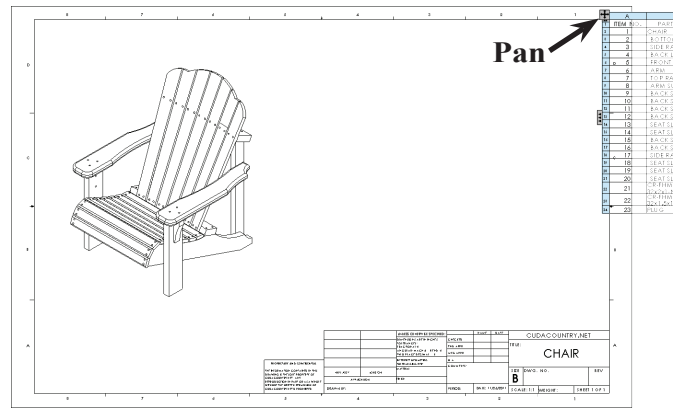

Fig. 7
Step 1. Click the **Pan**  icon in the top left corner of the table, **Fig. 7**.